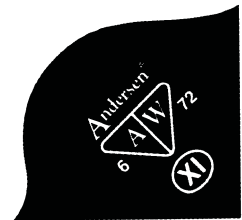

Fig 1. To 1975. Month to the left, year to the right of AW.
*Prior to 1975* Glass dates on all PPG window units have a number to the left of the AW logo representing the month and a number to the right representing the year (figure 1).